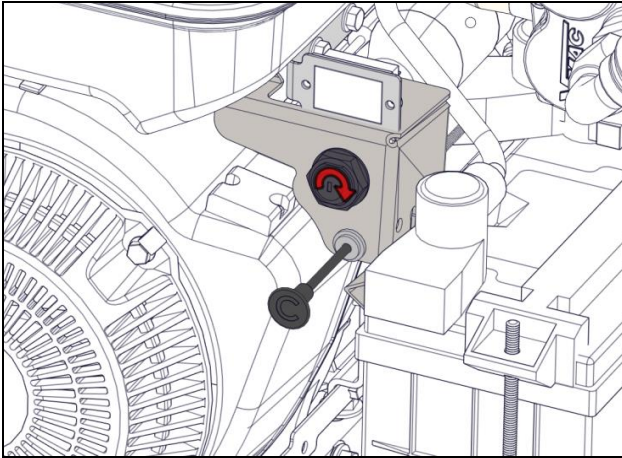

Figure 19 - Key switch
- 2) Turn the key switch to the “START” position (Figure 19).